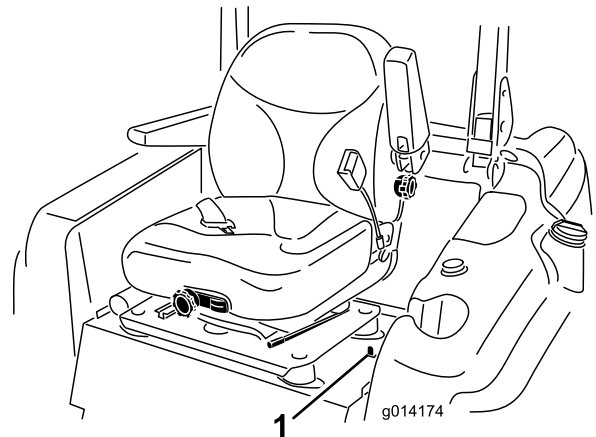

Figure 15
- Move the seat latch, located on the left side of the seat, rearward to unlatch the seat and pull forward on the top of the seat (Figure 15).